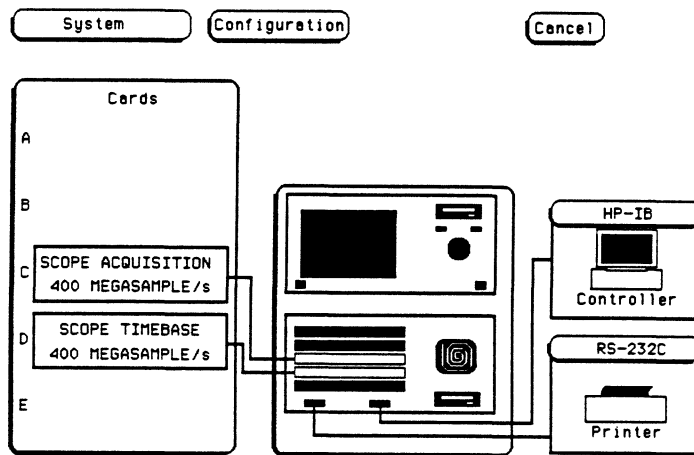

Figure 6-4. Startup Screen
- b. From the startup screen shown in figure 6-4, touch **Configuration** field, then touch **Test**.